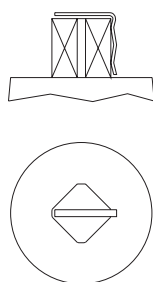

FIGURE 2. Location of Anti-Backlash Spring on 07 & Larger Squares.
- (4) On 07 and larger models, fit anti-backlash spring over one corner of the actuator square as shown in Figure 2.